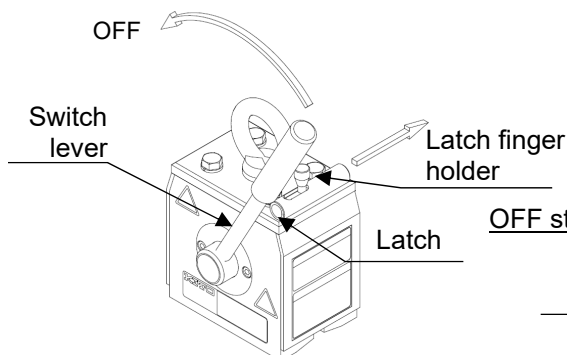

Figure 10-3 KRD8, KRD16
(7) Always raise the load slowly, and perform transportation at the lowest practicable height above the ground.
(8) Lower the load to the ground only after confirming safety of the surrounding area.
(9) Confirm complete grounding before releasing the latch lock. Grip the switch lever and conduct the following operation.
- KRD8, KRD16: Put a finger into the latch finger holder and press the latch toward the main body side (Figure 10-3).